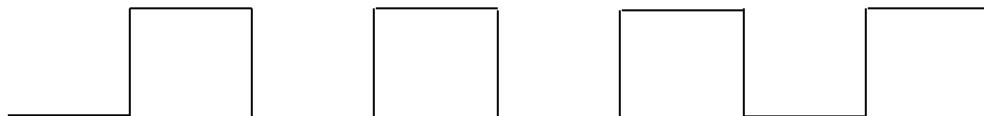

Figure L2.3 A square wave
- Let's investigate the response of a capacitor to a step function, i.e. closing the switch at time  $t=0$ . We can do that by displaying the voltage on the capacitor at the oscilloscope, then closing the switch. The only problem is that the charging of capacitor only takes few microseconds and you won't be able to see it on the oscilloscope. In order to observe the charging and discharging curves, we have to repeat the switching many times per second, i.e., the switch should be closed, opened, and then closed again and again for many times per seconds. Instead of using a DC power supply and a switch, we replace them by a 2V square wave generated from the Signal Generator. The output of Signal Generator is similar to the waveform in Fig. L2.3.